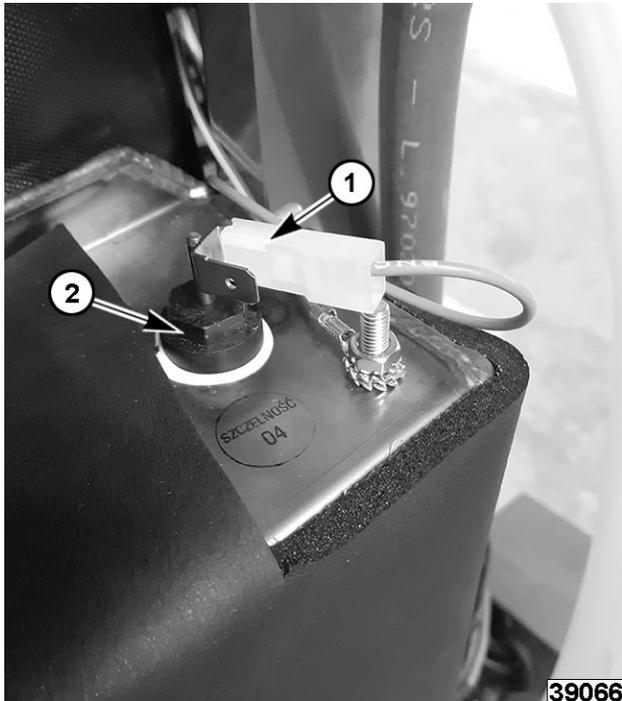

Fig. 45
4. Note and disconnect water level sensor (2, Fig. 45) wire connector (1, Fig. 45).